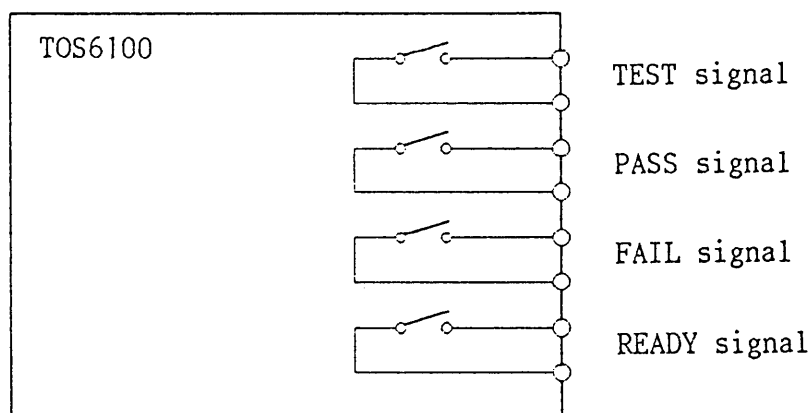

Figure 4.7
(2) Contact signals
- ① As Figure 4.7 shows, the contact signals simply open or close contacts when they are output. Since their circuits do not have any power sources, they cannot drive the loads that do not have power sources.